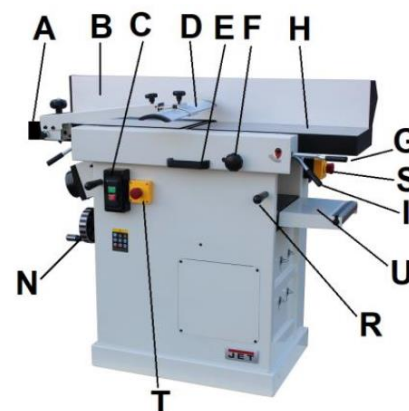

Fig 1
N....Thickness table adjust handwheel(Fig.1)
S.....E-Stop Switch (Fig.1)
The planer tables are precisely aligned ex. works. They may only be loaded when they are closed and the table-cabinet locks (I, Fig. 1) are engaged, otherwise they may be damaged.